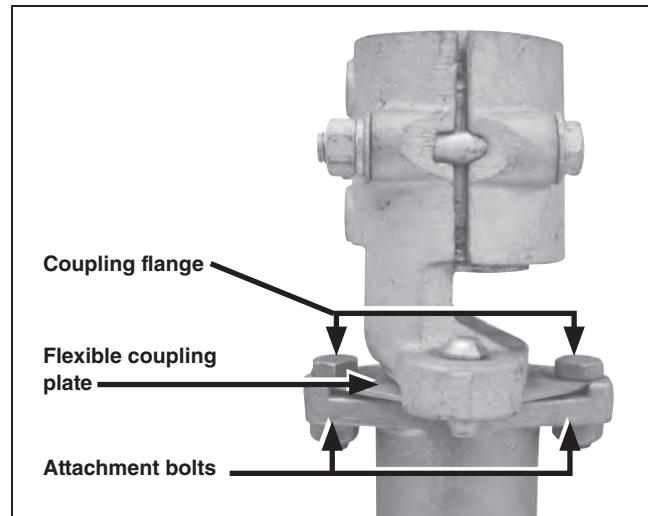

Figure 26. Attach the plate to the output shaft flange.
- (c) Install and tighten the self-locking nuts. Do not use lockwashers with the flexible coupling attachment bolts. See Figure 26.